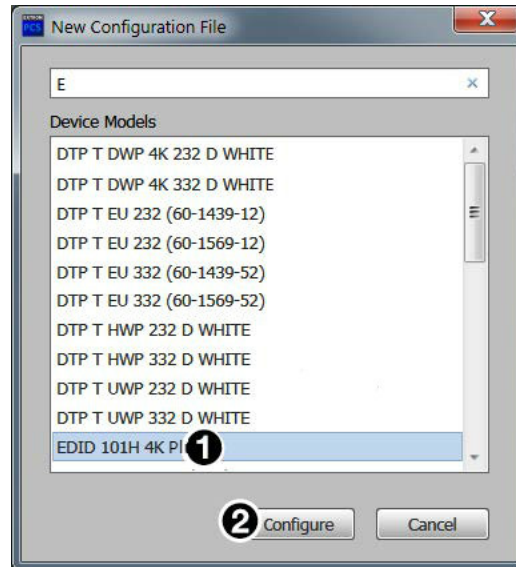

Figure 12. New Configuration File (EDID 101H 4K PLUS Selected)
The **New Configuration File** dialog box opens (see figure 12 on the next page).
1. Select the desired device model from the **Device Models** list (figure 12, **1**).